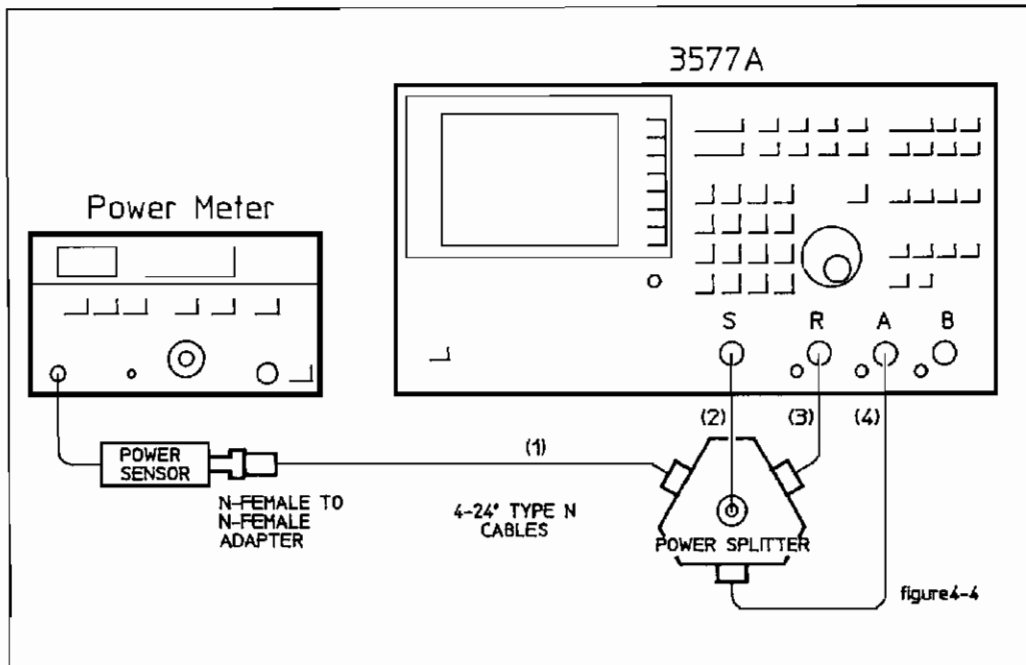

Figure 4-4 Input Level Calibration Test Set Up
- c. Connect the equipment as shown in Figure 4-4.